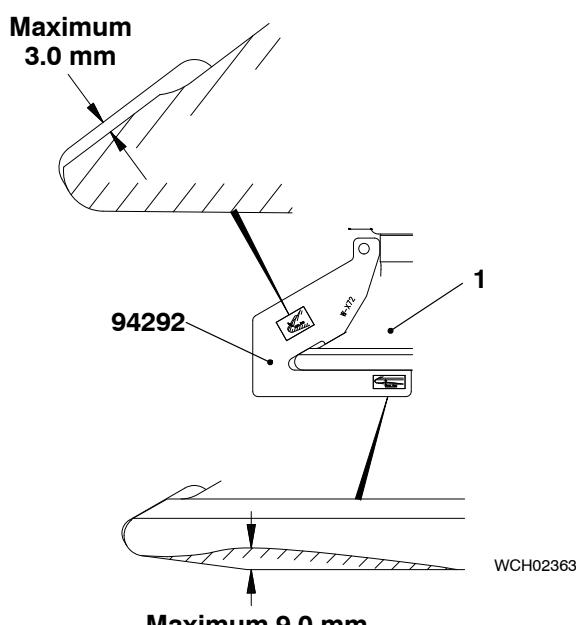

Fig. 2
- 4) Put the template (94292) on the valve head (1, Fig. 2).
If the corrosion is less than or equal to 9.0 mm (see Fig. 2), the valve spindle can be repaired.